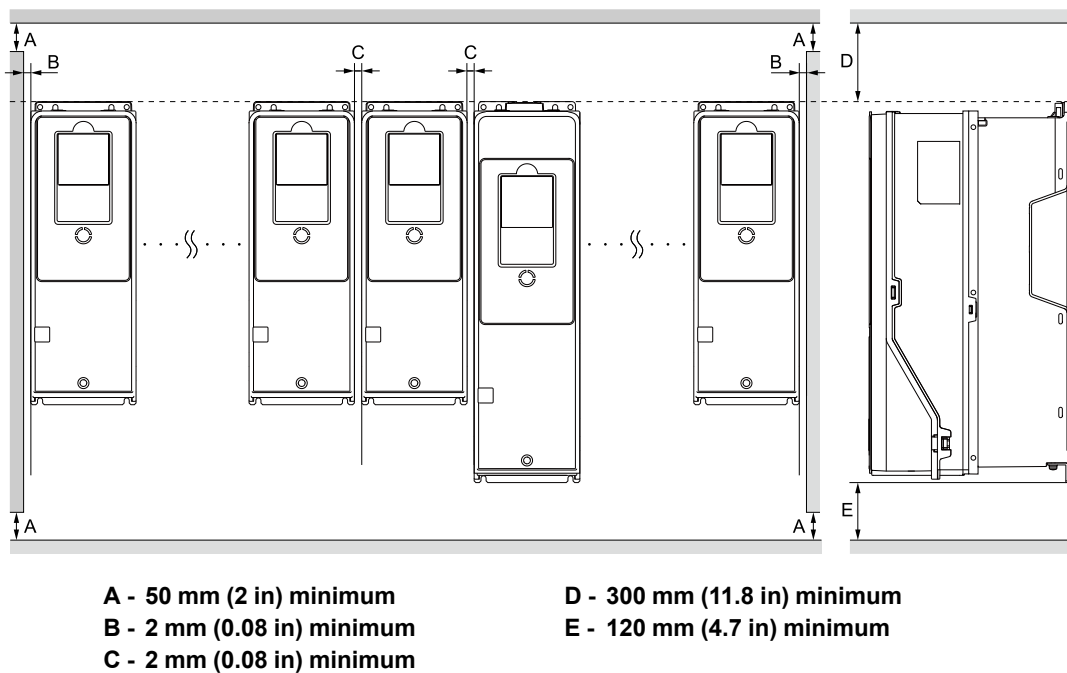

Figure 2.3 Installation Distances for More than One Drive (Side-by-Side)
- Use the clearances specified in Figure 2.3. Make sure that there is sufficient space.